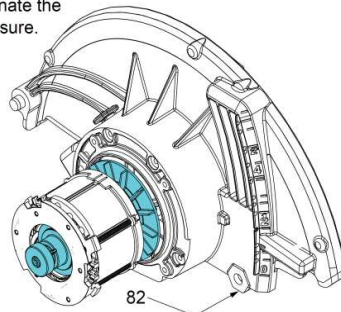

Figure 2
• Insert the rotor/stator assembly into pinion bore of the Upper Guard Gearcase Assembly (82). Carefully wiggle and push the rotor/stator until the ball bearing in front of the fan is fully seated in the bearing bore of the gearcase. See figure 2.